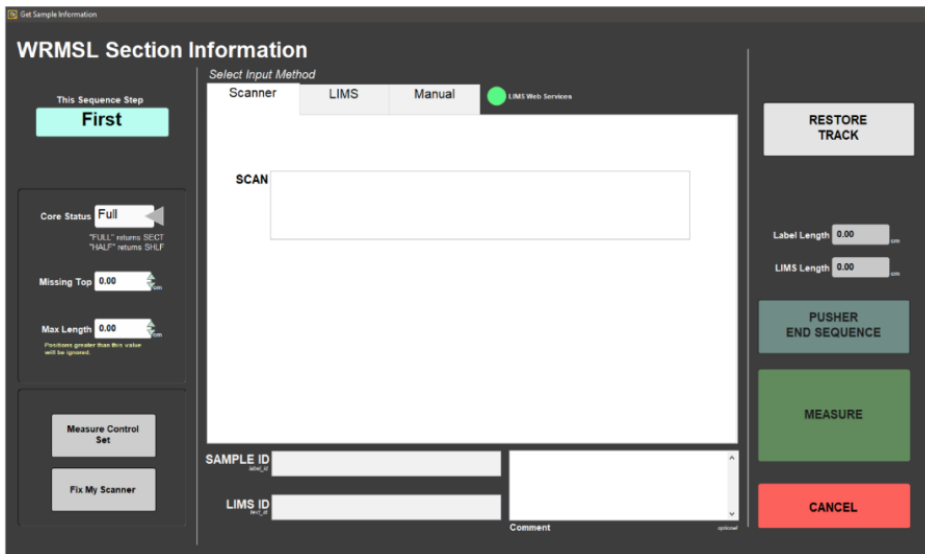

Figure 5. WRMSL Section Information window.
2. Click **START**. The Section Information screen is displayed (Figure 5).